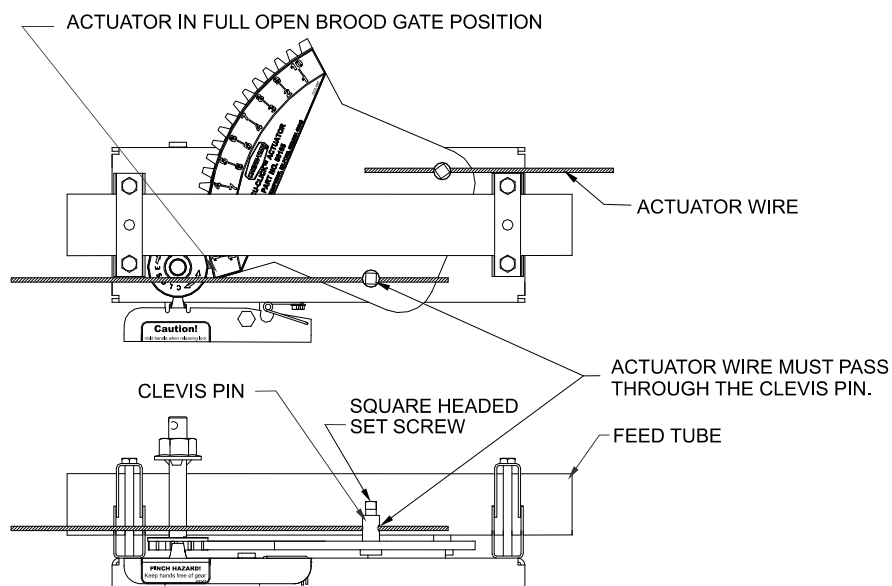

Figure 60. Actuator Wire at ACCU-CLICK™ Actuator.
- Position the actuator in the “Fully Open Brood Gate Position” (**Figure 60.**) if it is not already in the “Fully Open Brood Gate position”.
- Tighten the set screws on the clevis pins so they clamp down on the actuator wire, (**See Figure 60.**)